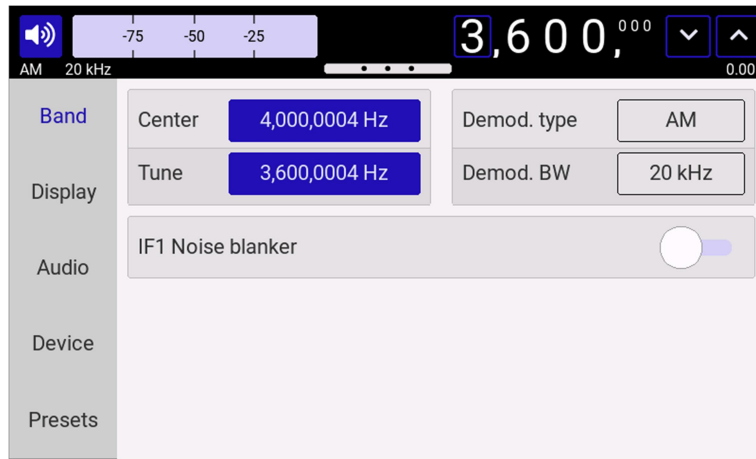

Figure 7.2 - Main menu
- Press the button (6) once from the quick settings menu, or press the button (6) twice with an interval of at least 1 second, if the device screen is displayed;
- Pull out the menu at the bottom of the screen outside the area (5) of the on-screen interface.
- The main menu will be displayed on the screen, as in Figure 7.2.